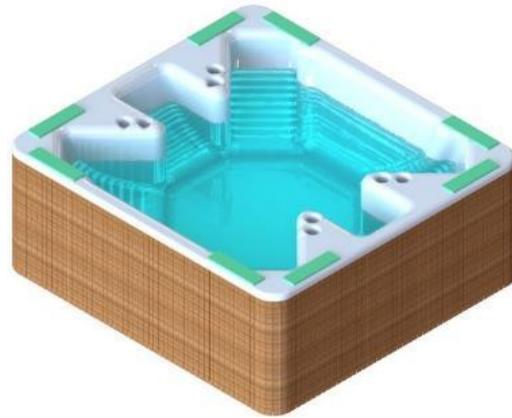

Figure 44
- 1) Attach the installation foam to the top of the hot tube near each corner using the masking tape provided in the seal bag. There must be at least 3 foam spacers on each longest side. Do not stack two pieces of foam on top of the other. (Figure 44)
- ◆ The foam pieces must be placed on the flat top surface of the hot tube. (Figure 44)